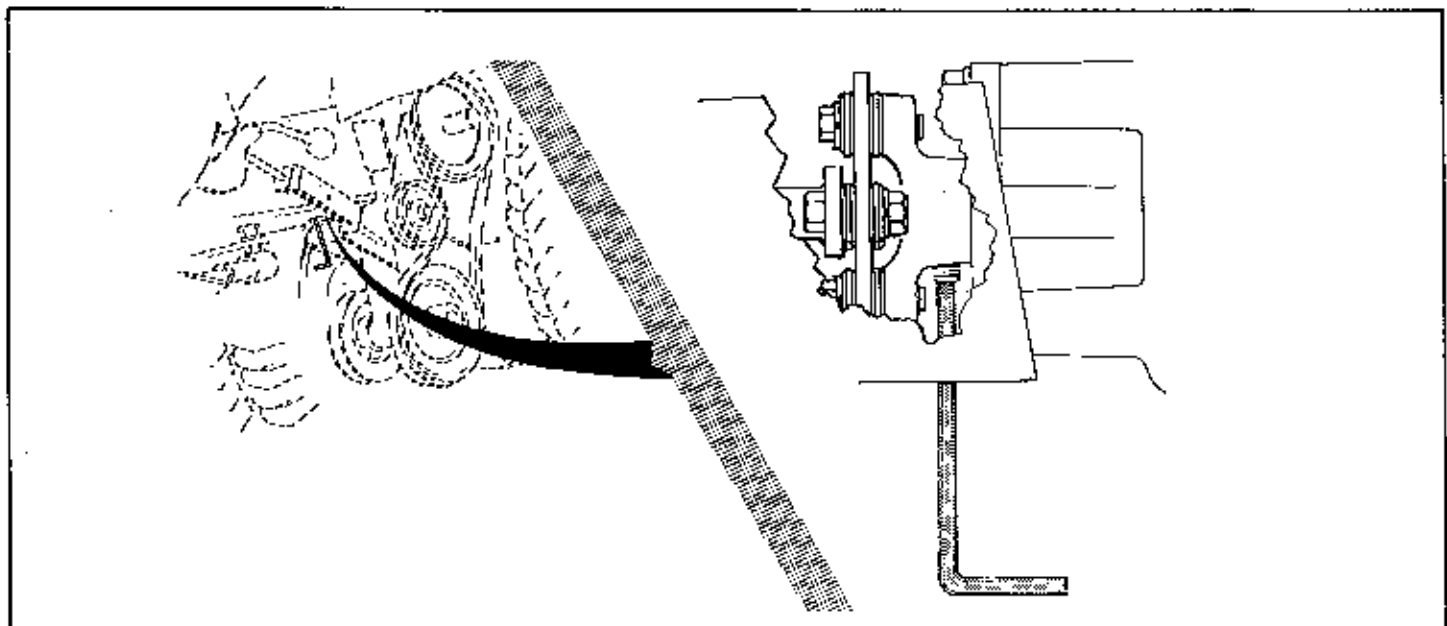

FIGURE 1A
- B. Loosen set screw on rear coupling flange through hole in bottom of frame. (Fig. 1A)